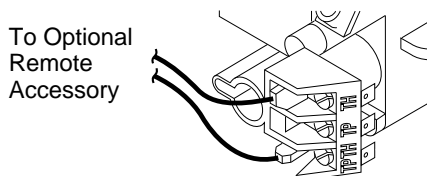

Figure 38 - Control Valve Terminals
6. Connect wires from receiver to TH and TPTH to control valve (see Figure 38).